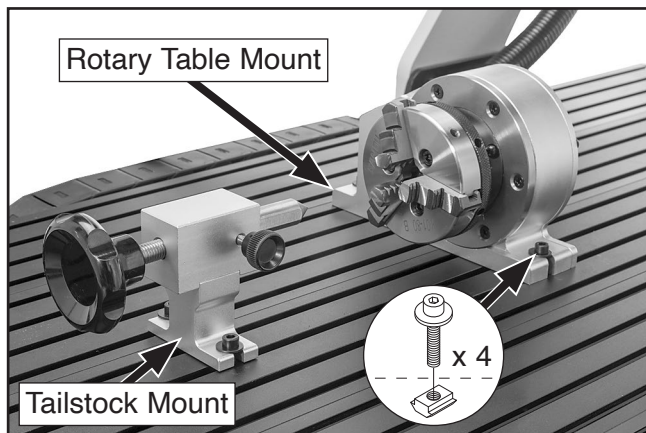

Figure 7. Rotary table and tailstock secured.
6. Move rotary table and tailstock mounts under cap screws and flat washers, then tighten cap screws to secure position (see **Figure 7**).